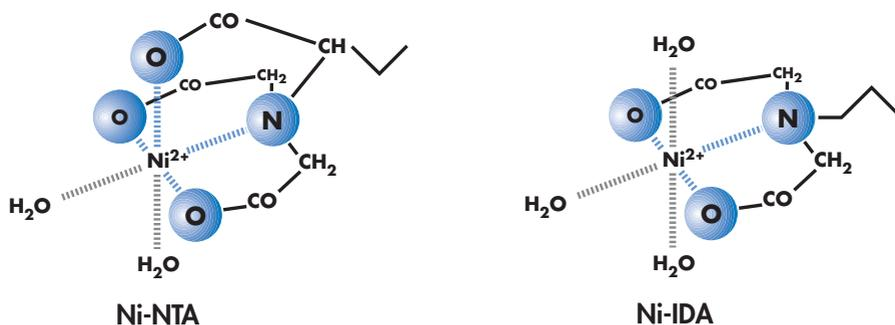

Figure 2. Comparison of the interactions of different metal chelate matrices with nickel ions.
Immobilized-metal affinity chromatography (IMAC) was first used to purify proteins in 1975 (5) using the chelating ligand iminodiacetic acid (IDA, Figure 2). IDA has only 3 metal-chelating sites and cannot tightly bind metal ions. This results in considerable leaching of metal ions from the chromatography matrix reducing the efficiency of protein purification (6). Therefore proteins that bind the metal ions are weakly bound to the metal-chelating matrix. A new, improved ligand for metal-chelate chromatography, Ni-NTA, was developed at Hoffmann-La Roche and is exclusively available from QIAGEN. NTA occupies four of the six ligand binding sites in the coordination sphere of the nickel ion, leaving two sites free to interact with the 6xHis tag (Figure 2). NTA binds metal ions far more stably than other available chelating resins (7, 8) and retains the ions under a wide variety of stringent conditions. The 6xHis tag binds strongly to the immobilized nickel ion allowing optimum separation. For optimal performance, both the 6xHis tag–nickel and the nickel–NTA interactions are important (Figure 3). These properties, which allow powerful one-step protein purification with Ni-NTA chromatography matrices (9), are exploited by Ni-NTA Conjugates and Ni-NTA HisSorb Strips and Plates, making them ideal tools for the detection and assay of 6xHis-tagged proteins.